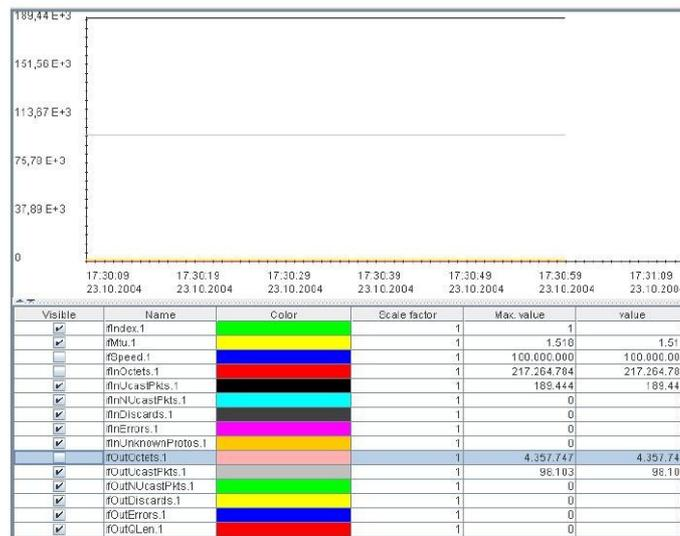

Figure A.6.: Graphical Display of Object Variables
- 3 In the right Window "Objektvariablen" object variables are shown for the selected SNMP agent. Using the "Table" or "Chart" in the object, the representation can be switched between tabular (see Figure A.5) and graphical (see Figure A.6) display.